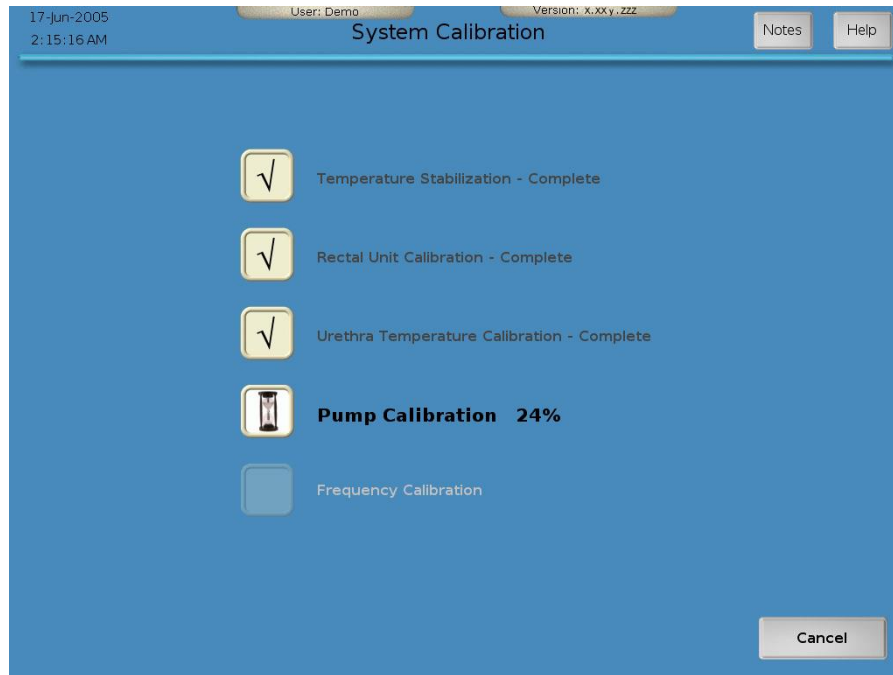

Figure 3-24. System Calibration screen
1. Wait while the Control Unit proceeds through a calibration process (can take up to 7 minutes) (Figure 3-24):